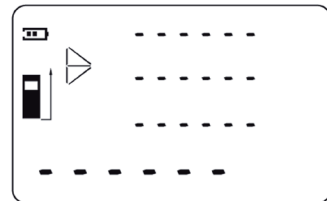

Fig. 20
1. Press the Mode button (4) to select the double Pythagorean Theorem measurement mode (fig. 20).